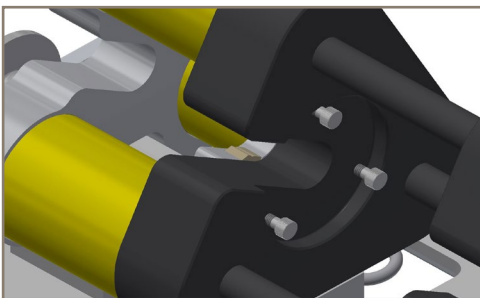

Figure 48
2. Identify the 6 cap screws located on the inside faces of the fixed and moving jaws (3 per jaw) (Figure 48).